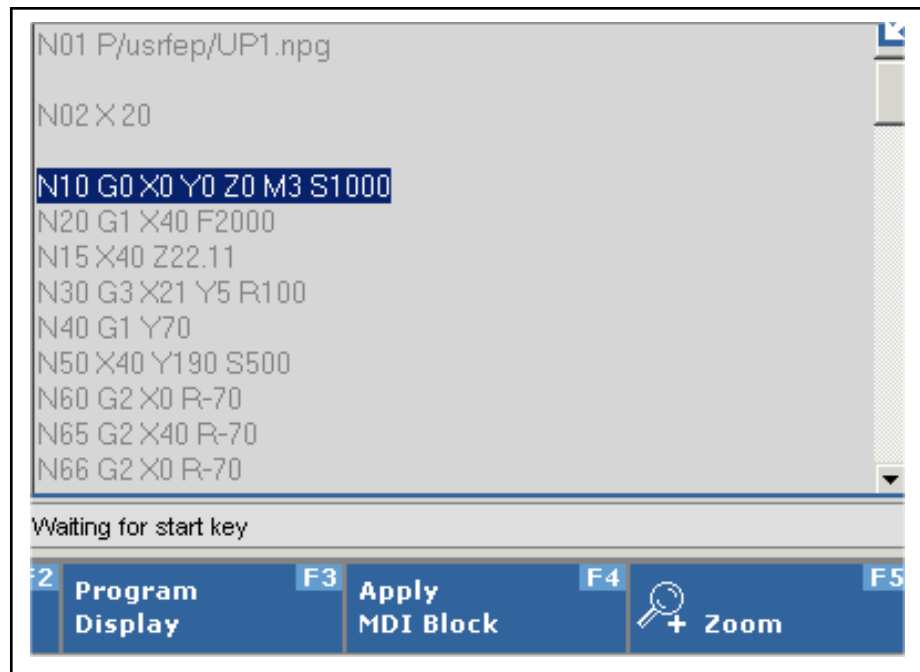

Fig. 5-15: Editing not permitted
2. With <F4> or <Enter>, the block is applied to the NC. The control is in "Ready" state and the block is highlighted. Editing is no longer possible. The text "Waiting for Start button" is displayed in the status line (see fig. 5-15 "Editing not permitted" on page 82).